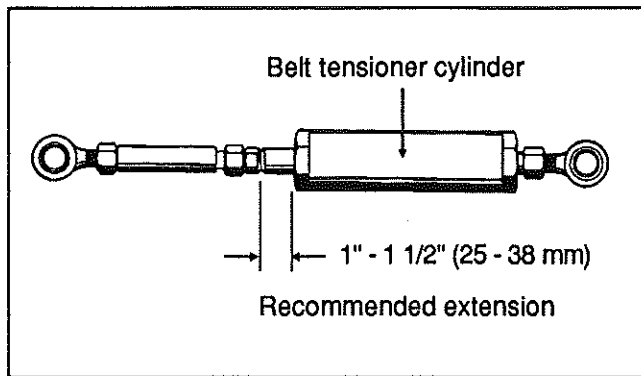

Fig. 16
2. With the pneumatic system under normal pressure and the belt tensioner pressure regulating valve properly adjusted, adjust the cylinder rod to provide a 1" - 1 1/2" (25 - 38 mm) extension as shown in figure 16. To perform adjustment, proceed as follow: